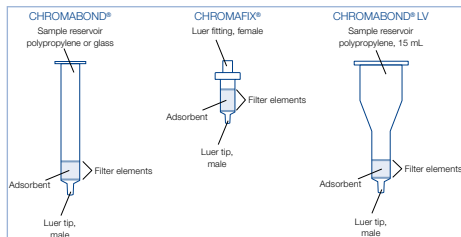

Figure 2: Hardware options for CHROMABOND® and CHROMAFIX® cartridges
MACHEREY-NAGEL supplies such manifolds in 3 different versions for up to 12, 16 or 24 CHROMABOND® columns or CHROMAFIX® cartridges, respectively (Figure 2). The manifolds consist of a rectangular glass cabinet (1) with vacuum gauge (3) and a polypropylene lid (2), which can hold the columns or cartridges. With the control valve (4) the vacuum in the chamber can be adjusted and read from the gauge. The replaceable valves / stop cocks (5) on the lid allow individual vacuum control for each solid phase extraction column, if required.